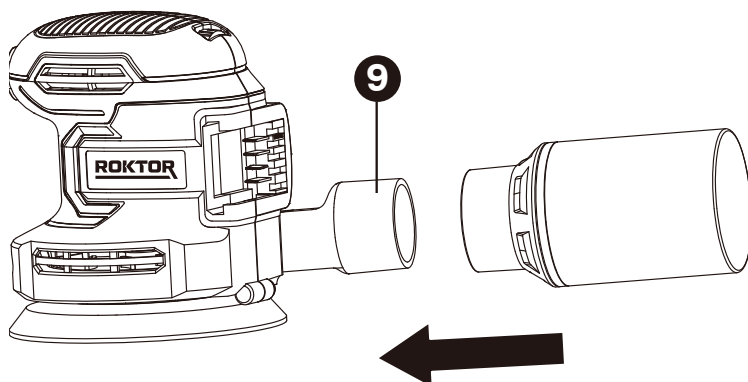

Figure 2
9. Dust extraction outlet (See Fig. 2)
2. USING THE DUST BAG (SEE FIG. 2)